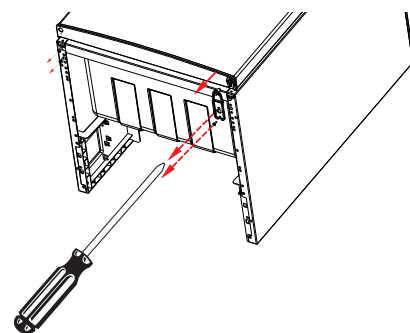

Fig. 2
- ▶ Use a Phillips screwdriver to unscrew the two retaining screws on the lower hinge and remove the hinge from the refrigerator housing (Fig. 2).